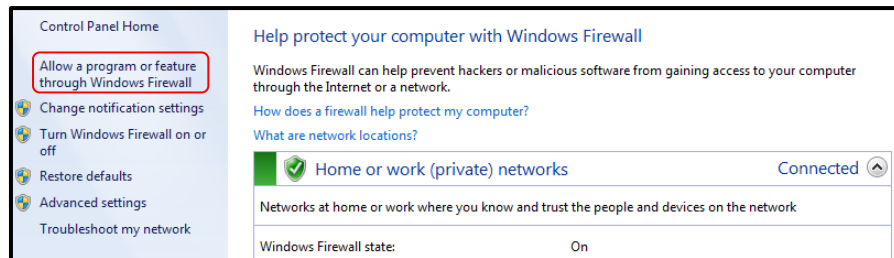

Figure 84 – Allowing a program through Windows Firewall
2. In the left sidebar, click the “Allow a program or feature through Windows Firewall” link. Refer to Figure 84.